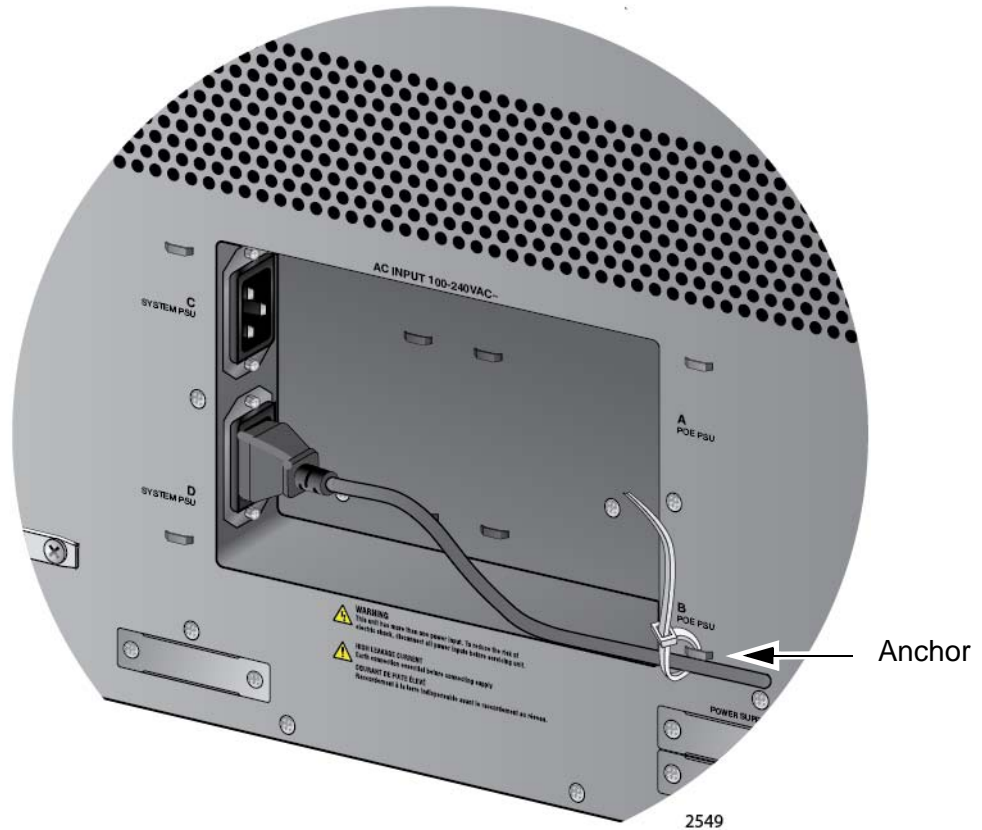

Figure 111. Securing the Power Cord for the AT-SBxPWRSYS1 or AT-SBxPWRSYS2 AC System Power Supply to an Anchor
3. Use the twist tie included with the power supply to secure the cord to an anchor on the chassis to protect it from being accidentally pulled out, as shown in Figure 111 on page 177.